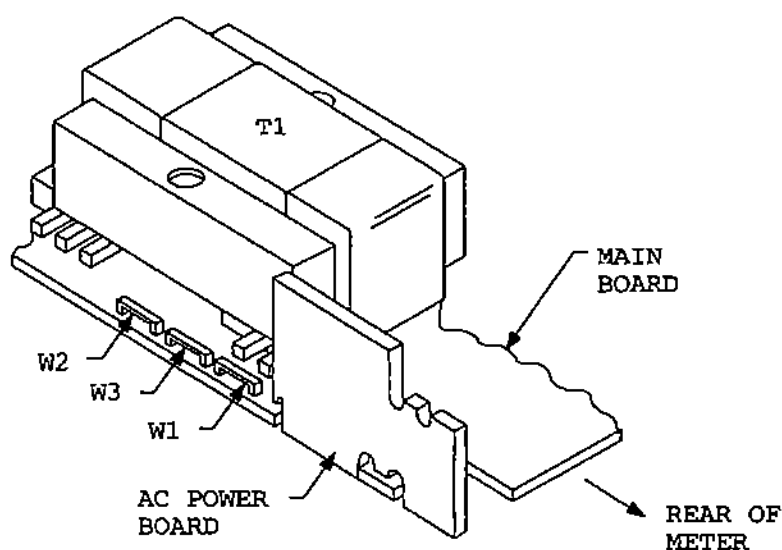

Figure 5-3. Transformer Jumpers
2. Locate the main board assembly and position it in front of you the same way as shown in Figure 5-3.